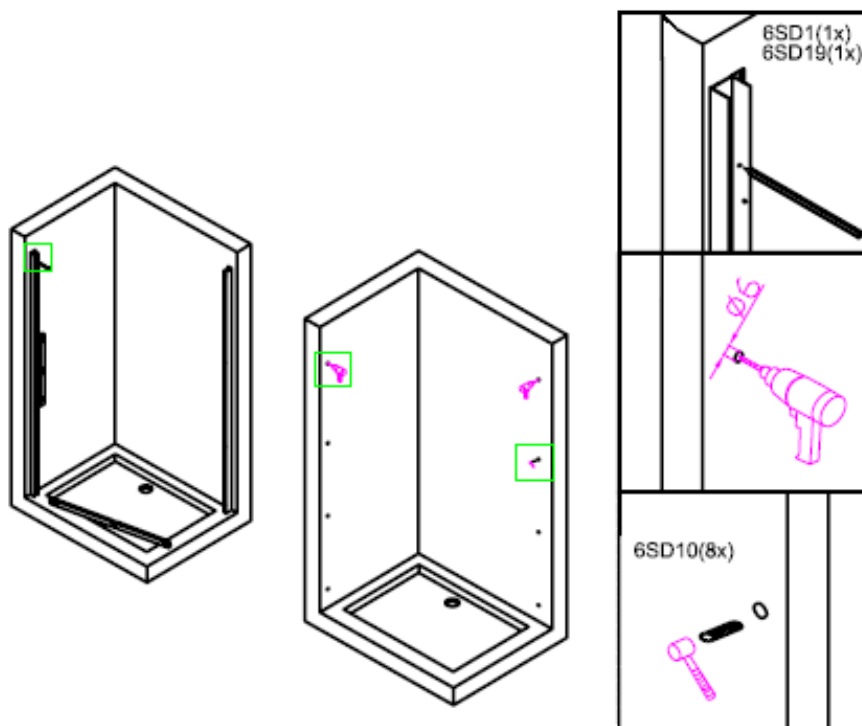

Figure 1
1. Using the spirit level to make sure the frame between the walls is horizontal. lift the wall profile(6SD1) upto the wall. Check whether the frame is vertical by using a spirit level. Mark the holes to the walls with a pencil. Drill the holes(\varnothing 6mm) into the wall according to the marks made and insert the wall plugs (6SD10) into the holes, as shown in figure 1